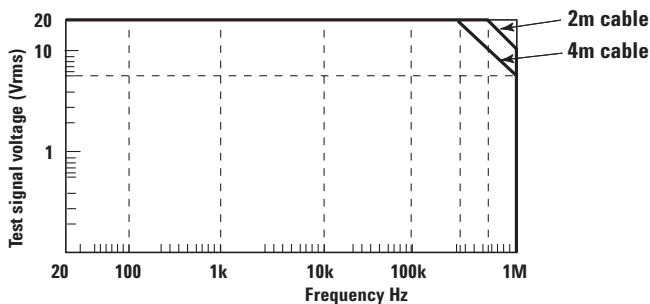

Figure 1-1. Test signal voltage and test frequency upper limits to apply relative accuracy to 2 m and 4 m cable length operation
- For 2 m or 4 m cable length operation, test signal voltage and test frequency are set according to Figure 1-1. (2 m and 4 m cable can only be used when Option 4284A-006 is installed.)